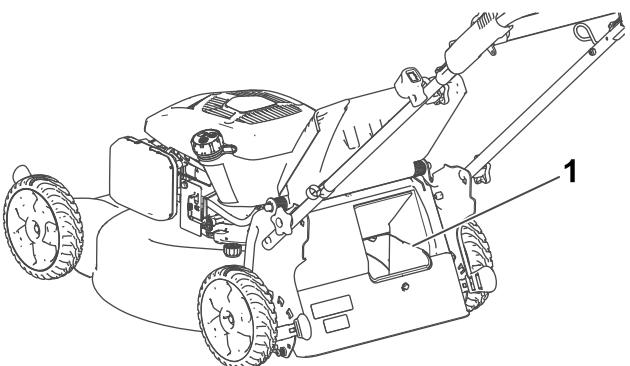

Figure 24
**Important:** For proper operation, remove any grass clippings and debris from the bag-on-demand door and the surrounding opening (Figure 24) before you move the bag-on-demand lever from 1 position to another.